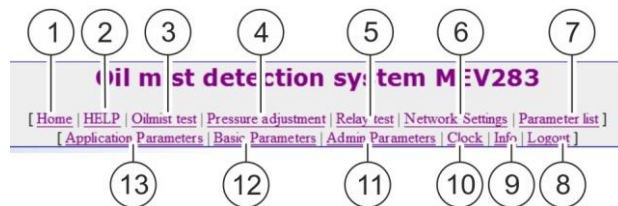

Fig. 49: Menu bar
1. Click on “Oil mist test” (Fig. 49/3) in the menu bar.
3. Click on "Home" (Fig. 49/1) in the menu bar.